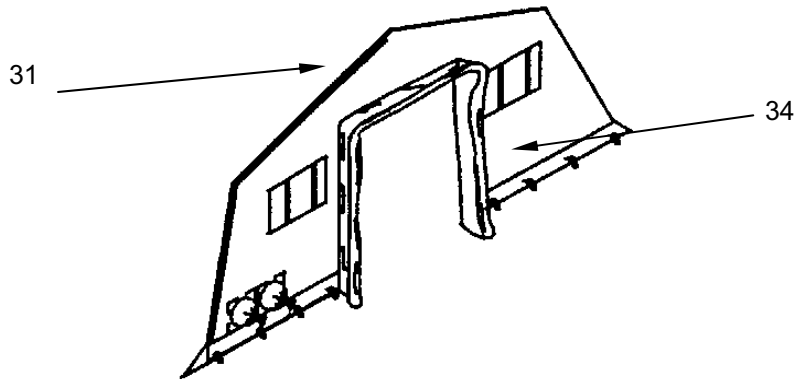

Figure 16. Identify Modified End Section (ISO Bootwall) Components.
1. Identify modified end section (bootwall) (**Figure 16, Item 34**). Modified end section (bootwall) should be stenciled "ISO Bootwall".
2. Identify large spindle grommet (**Figure 16, Item 31**) at peak of modified end section (bootwall).